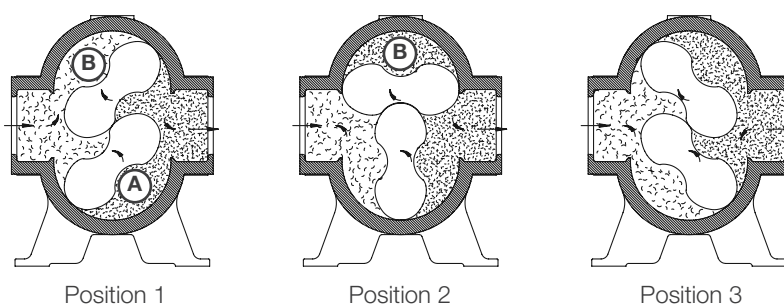

Figure 1 - Flow Through a Basic Type RAS/RGS Blower
Operation of the familiar basic rotary lobe blower is illustrated in Figure 1, where air flow is left to right from inlet to discharge with the lower impeller rotating counterclockwise. In Position 1, it is delivering a known volume (A) to the discharge, while space (B) between the upper impeller and cylinder wall is being filled. Clockwise rotation of this impeller then traps equal volume (B) in Position 2, and further rotation delivers it to the discharge in Position 3. At the same time, another similar volume is forming under the lower impeller, and will be discharged when rotation reaches Position 1 again.